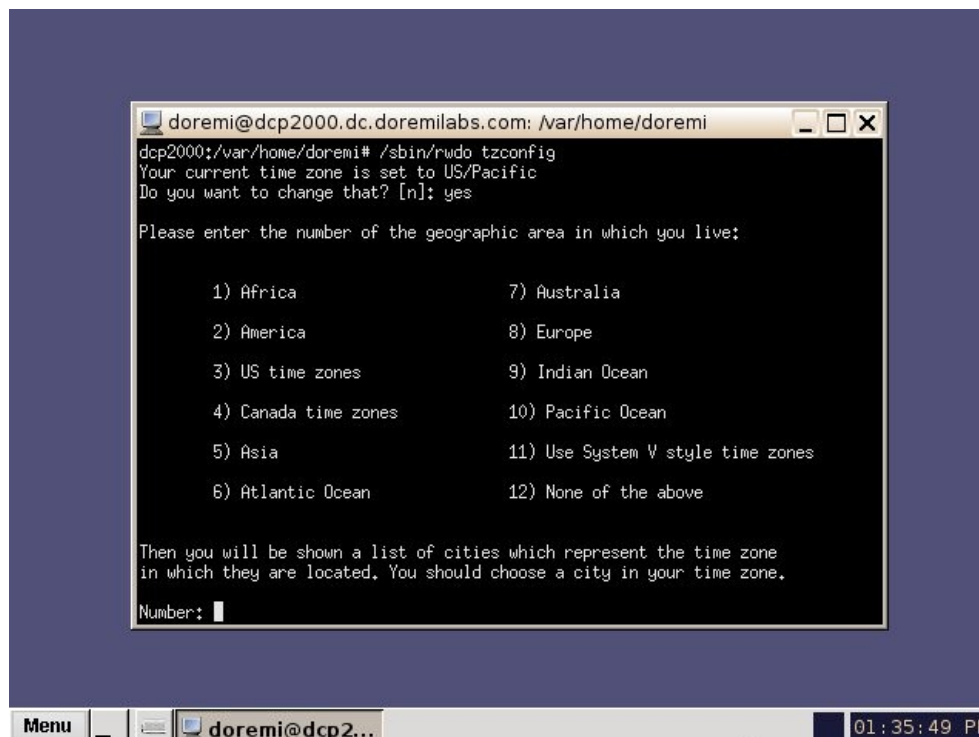

Figure 17: Terminal Window with Time Zone Wizard
- Select the number of the geographic area for the time change (Figure 17).